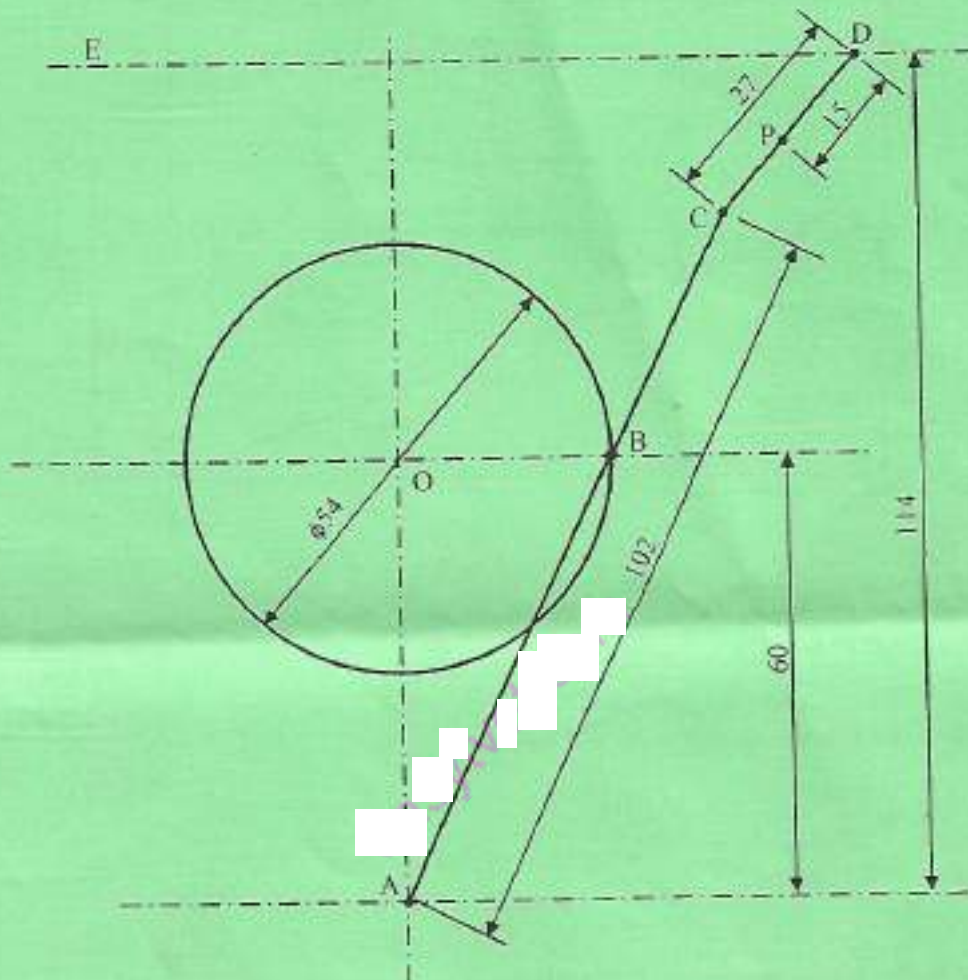

Fig. 3
3. Figure 3 shows a line diagram of a slotted crank and link of a shaping machine mechanism. The link AC is attached to a fixed point A about which it is free to move about the fixed point on the disc. The disc rotates about centre O. Attached to C and free to move easily about the points C and D, is the link CD. D is also free to slide along DE. Plot the loci of C and P on the link CD, when the disc rotates anticlockwise. Clearly show the full travel of B on AC in mm. (15 marks)